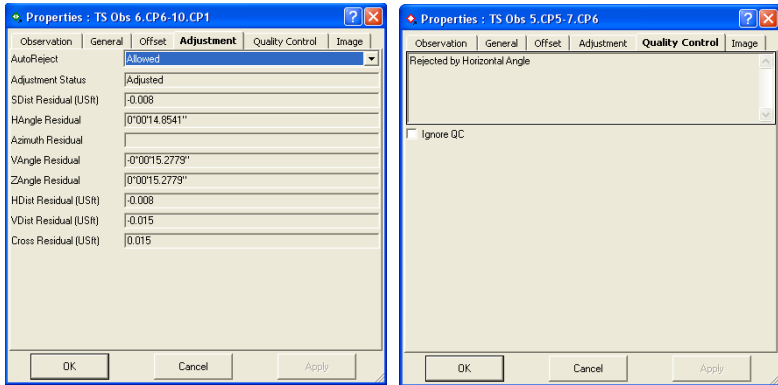

Figure 5-113. Adjustment Properties
5. View or edit *Adjustment* tab fields for setting the *AutoReject* option and viewing the status and residuals for the observation (Figure 5-113).
6. The *Quality Control* tab contains informational text on selected observations (marked in red on the views) that did not pass some of the quality control checks (Figure 5-113).